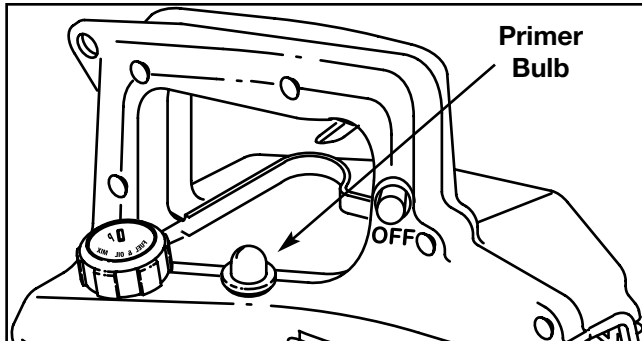

Fig. 14
2. **FULLY PRESS AND RELEASE THE PRIMER BULB UNTIL FUEL IS VISIBLE IN BULB.** See Fig. 14 for the primer bulb location.